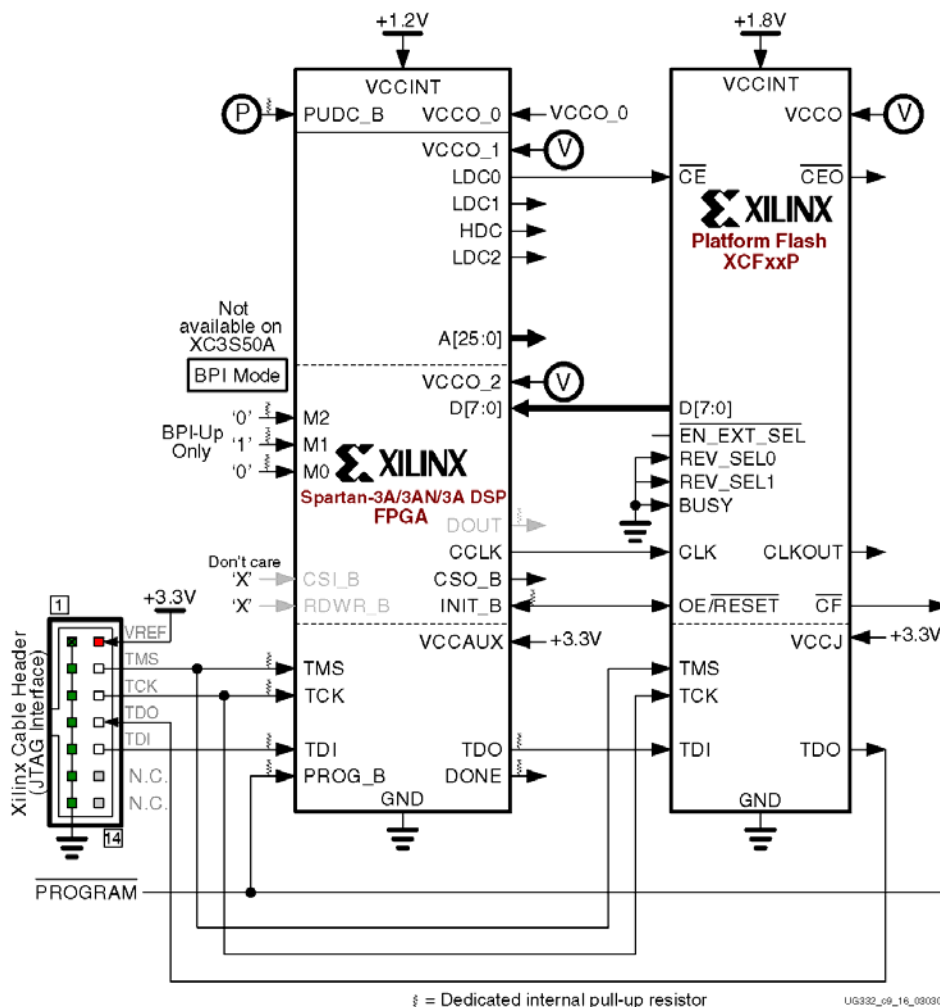

Figure 5-6: Master BPI Mode Using Xilinx Parallel Platform Flash PROMs (XCFxxP)
- The diagram in Figure 5-6 shows an Extended Spartan-3A family FPGA, but the same approach also works with Spartan-3E FPGAs.